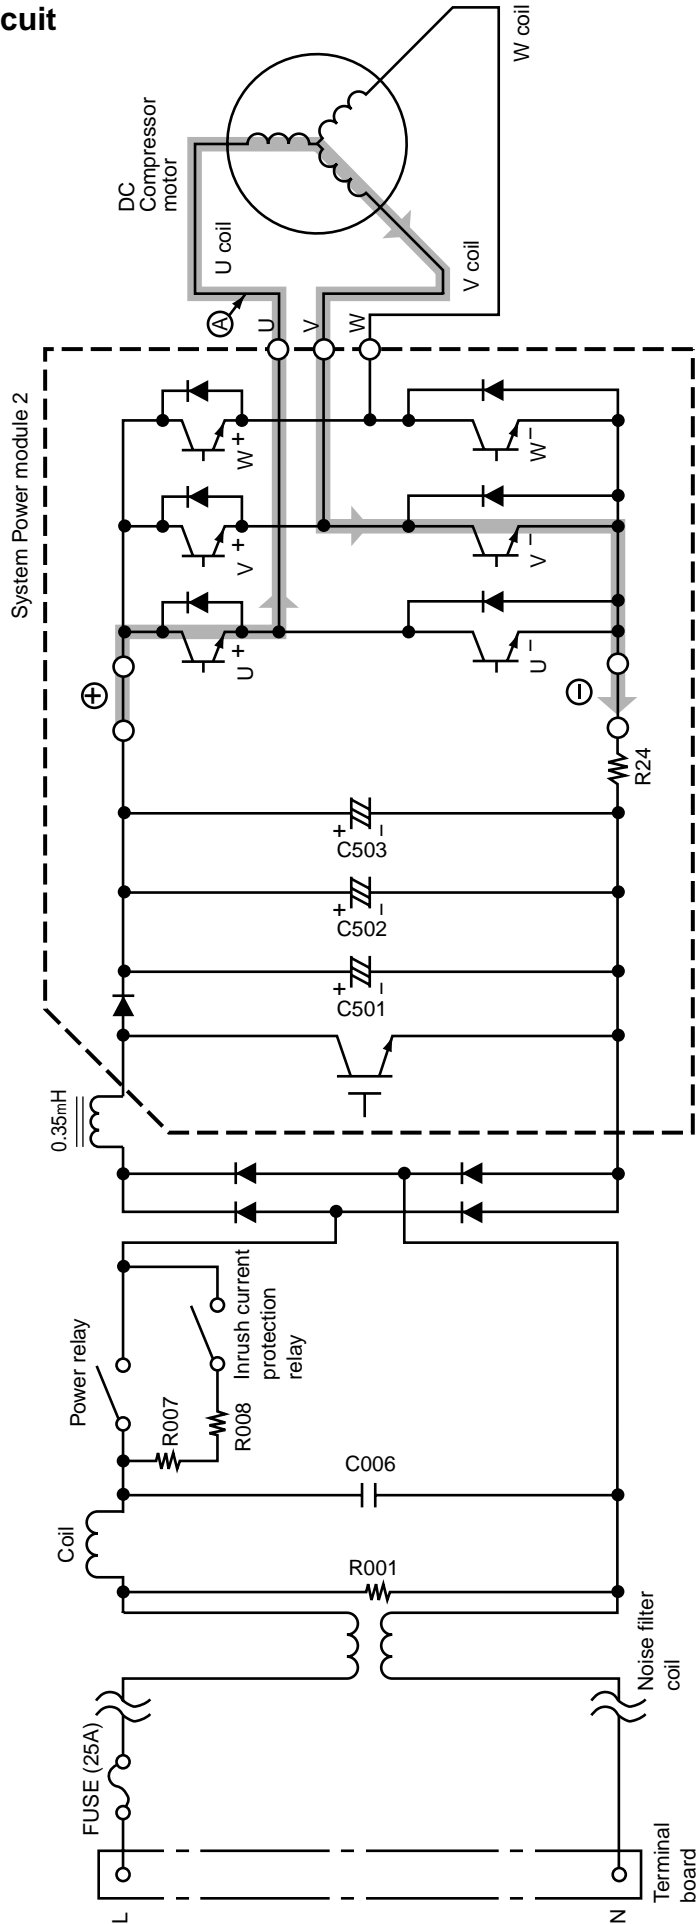
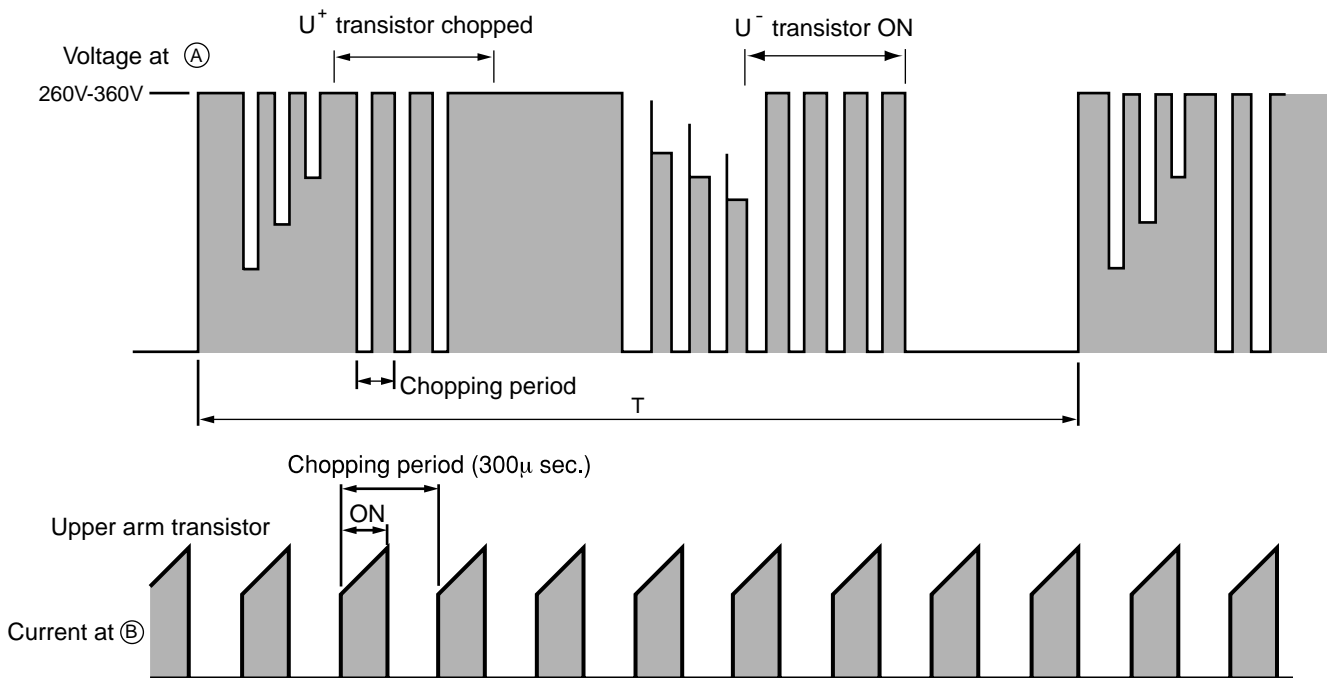

Fig. 3-1 Power module circuit (U⁺ is ON, V⁻ is ON)
Fig. 3-3 Voltage waveform at each point
- Fig. 3-1 shows the system power module and its peripheral circuit. The three transistors on the positive ⊕ side are called the upper arm, and the three transistors on the negative ⊖ side, the lower arm.
- Fig. 3-3 shows voltage waveform at each point shown in Figs. 3-1 and 3-4. First half of upper arm is chopper, second half is ON, and first half of lower arm is chopper, second half is ON.
- When power is supplied U⁺ → U⁻, because of that U⁺ is chopped, current flows as shown below; (B)
- (1) When U⁺ transistor is ON: U⁺ transistor → U coil → V coil → V⁻ transistor → DC current detection resistor → Point (B) (Fig. 3-1)
- Since current flows at point ② only when U⁺ transistor is ON, the current waveform at point ② becomes intermittent waveform as shown in Fig. 3-3. Since current at point ② is approximately proportional to the input current of the air conditioner, input current is controlled by using DC current (I_d) detection resistor.